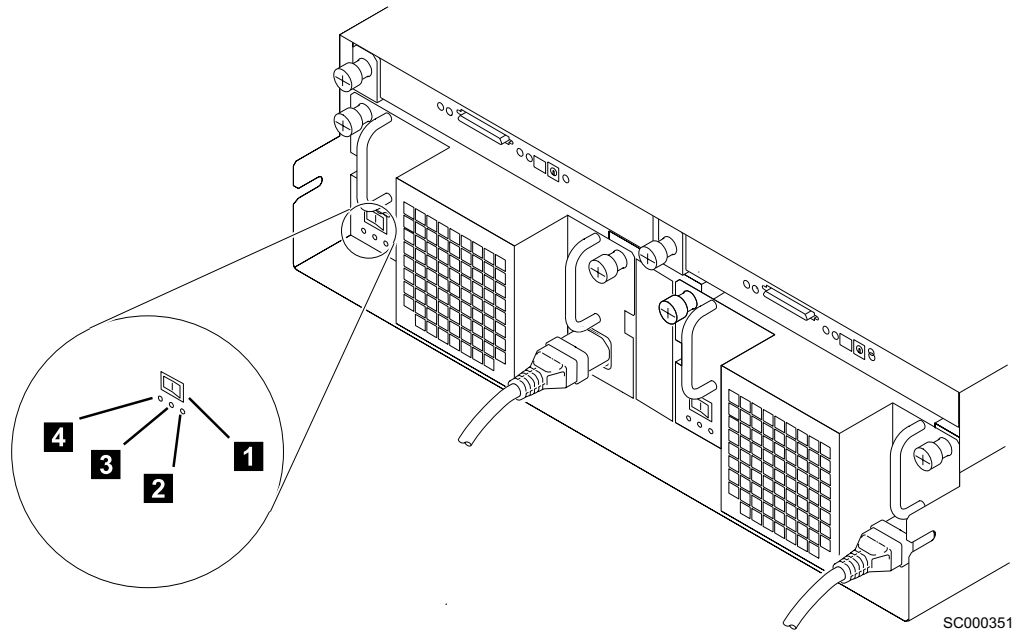

Figure 42. Checking the power supply switch and lights
2. Ensure that the dc on/standby switch **1** is set to standby. See Figure 42.
7. Switch on the dc on/standby switch **1** on each power supply. If option switch **5** (see Figure 34 on page 20) is on, the green DC PWR light **3** comes on and the check light **2** becomes off. See Figure 42. If option switch **5** (see Figure 34 on page 20) is off, the green DC PWR light **3** (see Figure 42) stays off and the check light **2** stays on. It will come on when the 2104 Model DS4 is connected to the host system.